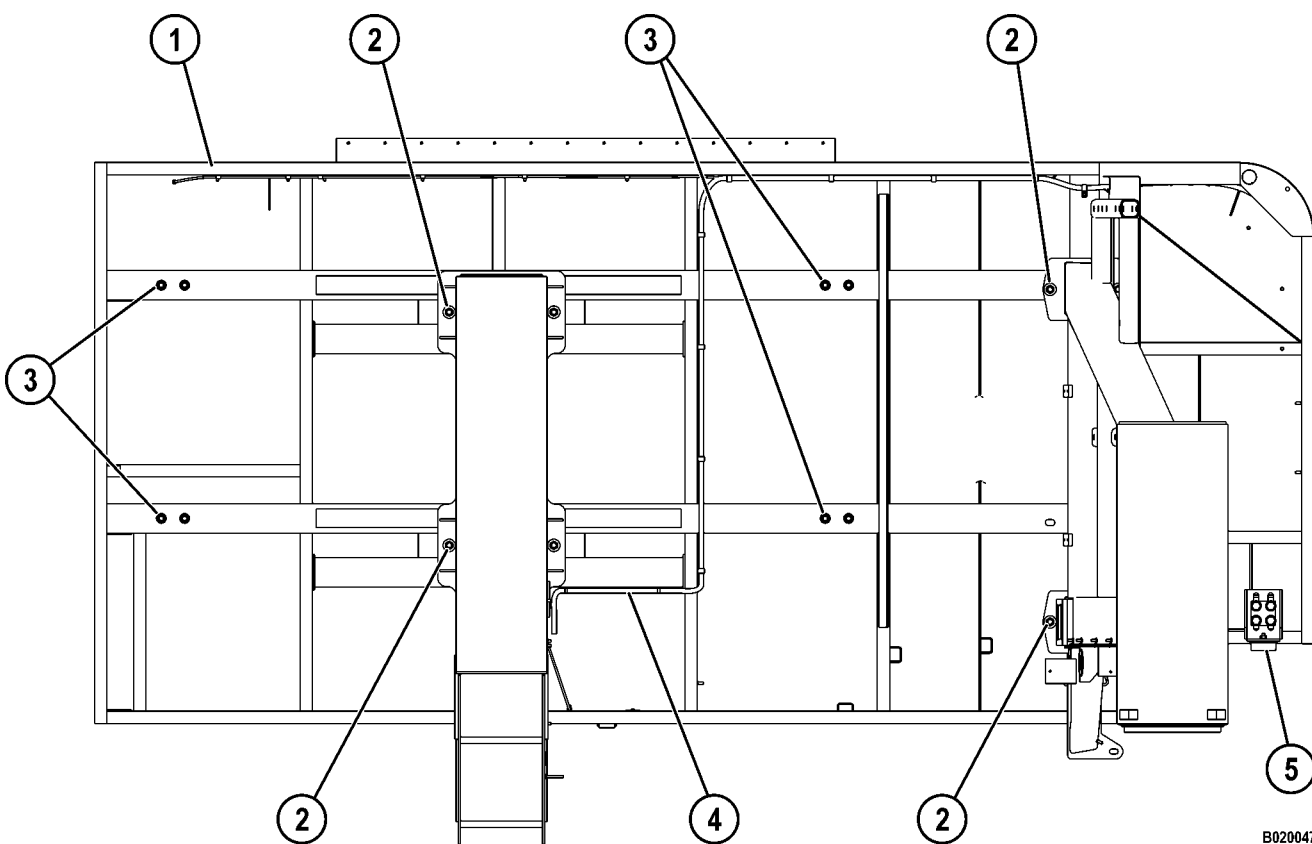

FIGURE 2-2. R.H. DECK STRUCTURE MOUNTING
3. Remove retarding grid mounting hardware (3, Figure 2-2) at six locations.
5. Disconnect deck lighting harness (4). Remove any wiring harnesses, cables or hoses as needed. The lighting harness and clamps do not require removal.
7. Remove deck mounting hardware (2) and any shims at the deck support and the front upright.
9. Carefully lift deck structure (1) from the deck supports.